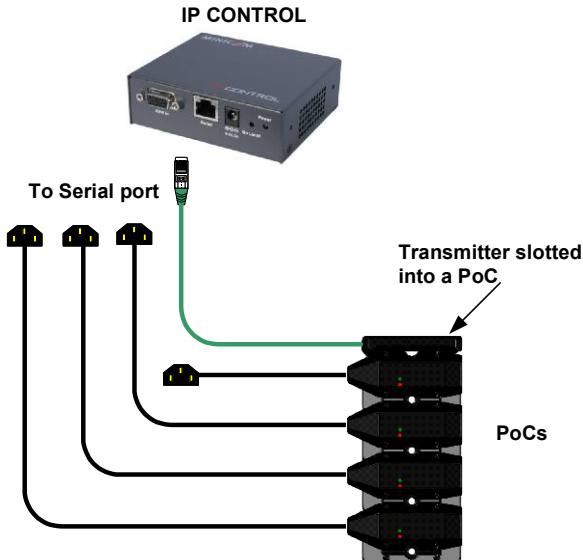

Figure 3 Power on Cable Transmitter connections
2. Connect the Serial connector to Serial port of the IP Control. See Figure 3.